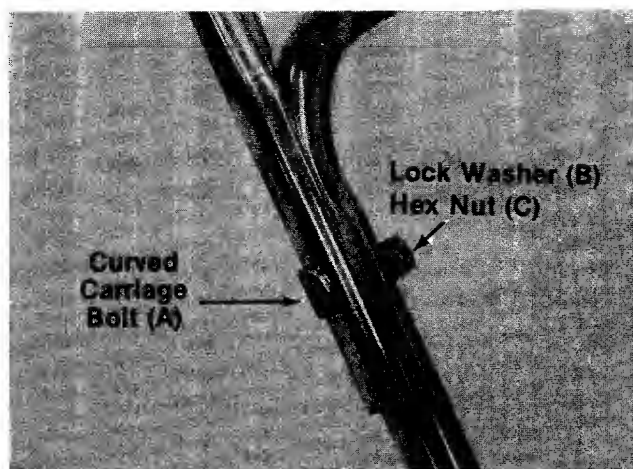

FIGURE 4.
4. Place upper handle in position over lower handle. Control housing should be on the **right** side of the handle. Secure upper handle with two curved head carriage bolts (A), lock washers (B) and hex nuts (C). See figure 4.